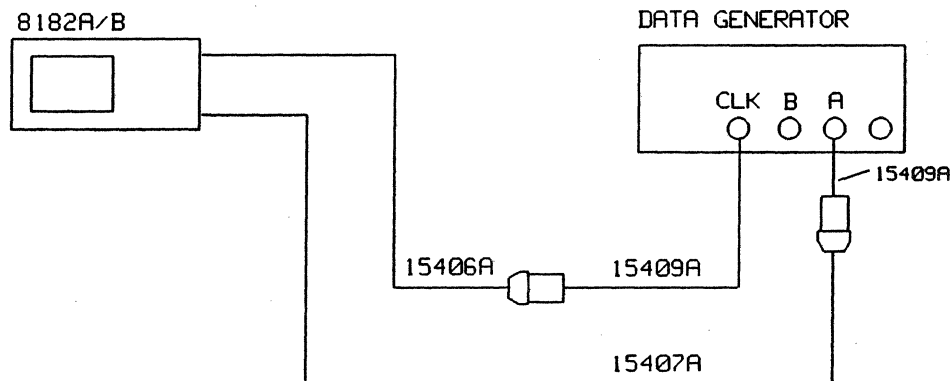

Figure 7-2. Test Setup for the Trigger Delay and Stop Delay Test
7. Connect the equipment as shown in Figure 7-2 and press RUN.